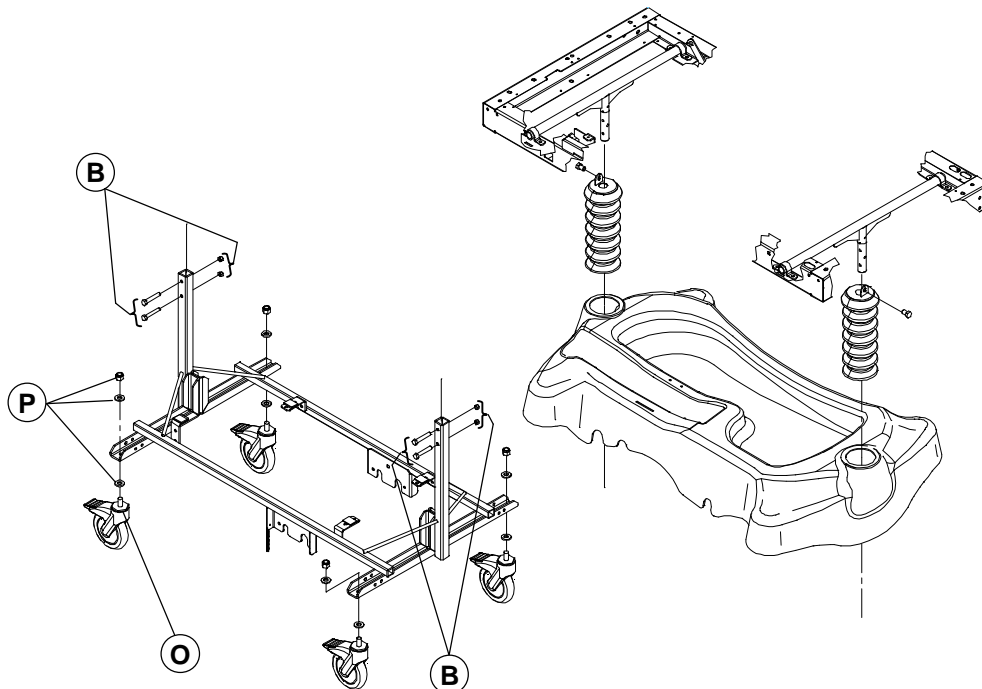

Figure 3.7
4. While holding the caster stem (O, fig. 3.7, page 20) with a special tool available through our Technical Service department (P/N 19-0803-Z), use a 3/4" socket and ratchet to remove the locknut/washers(2) (P, fig. 3.7, page 20) holding the caster to the base frame. Remove the defective caster.